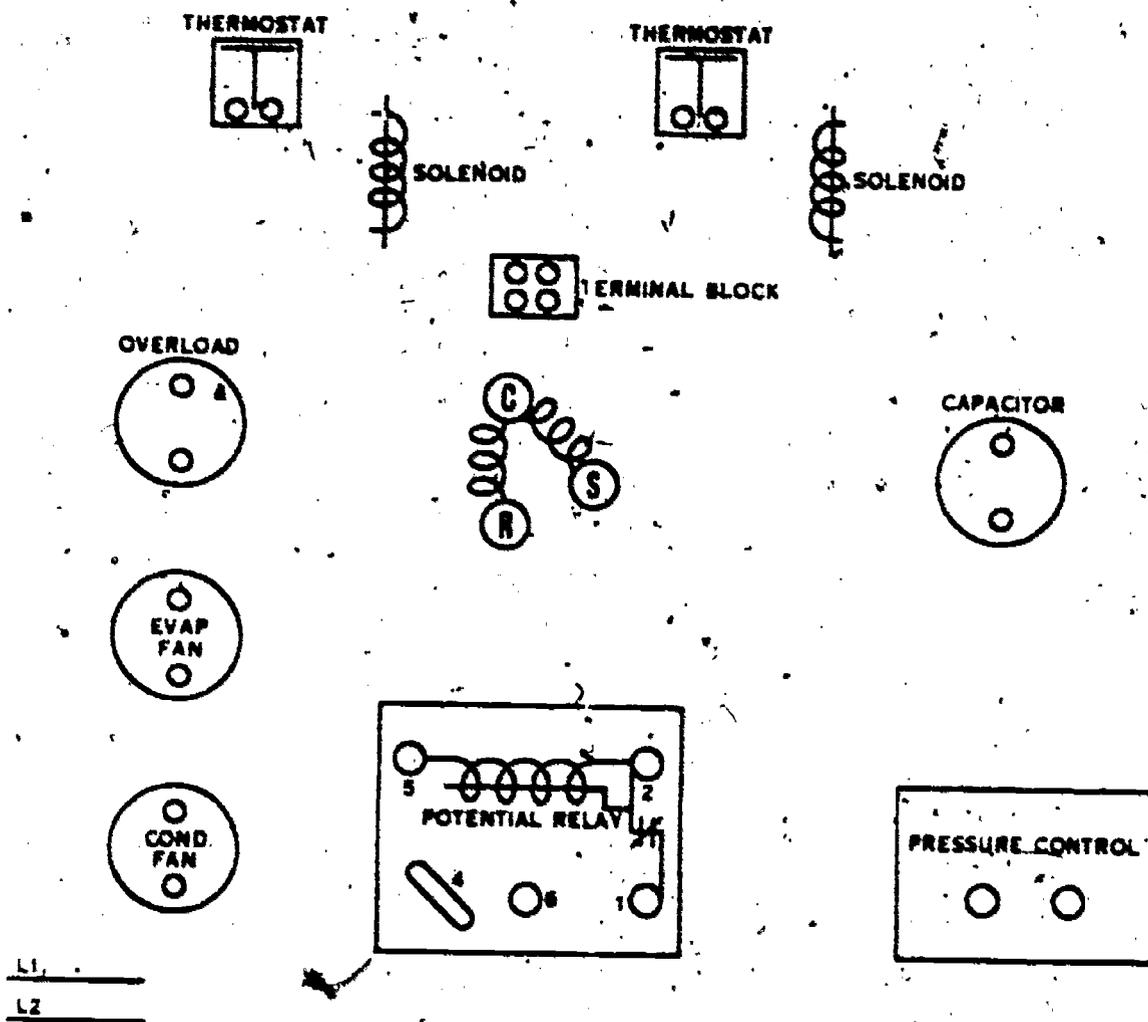

Figure 5. Solenoid Valve Multitemperature Electrical System
2. Start at L1 or L2 in figure 5 and draw lines connecting the components for correct operation and current flow.